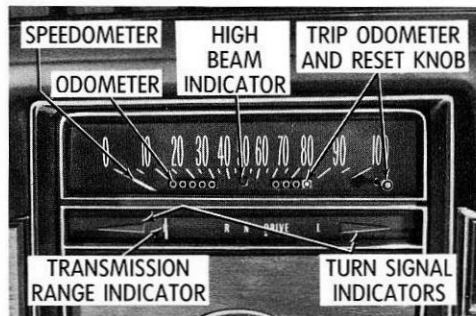

FIG. 2-5: SPEEDOMETER
- The speedometer needle indicates car speed, Fig. 2-5.